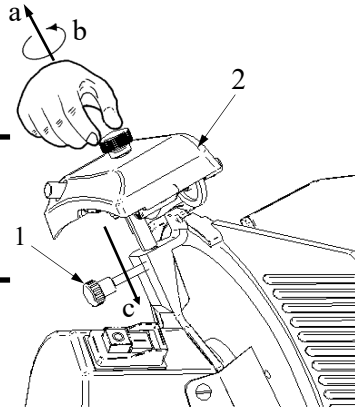
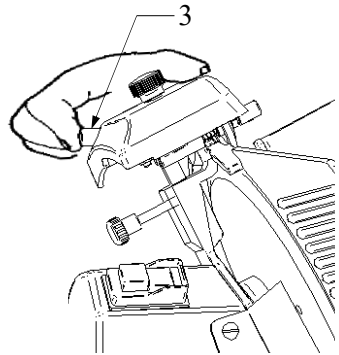

FIG. no. 9a
FIG. no. 9b
- 3 Unscrew the knob (1) until the sharpener (2) loosens. Lift (a) the sharpener (2) up to the locking position and rotate it 180° (b) (see FIG. no. 9a). Then let it move to the end (c) so that the blade is positioned between the two grinding stones. Lock the knob;
- 4 Switch-on the slicer by pushing the button "I" (ON);
- 5 Push the small button (3) (see FIG. no. 9b), let the blade rotate against the grinding stone for 30 to 40 sec. to produce burr on the blade edge;